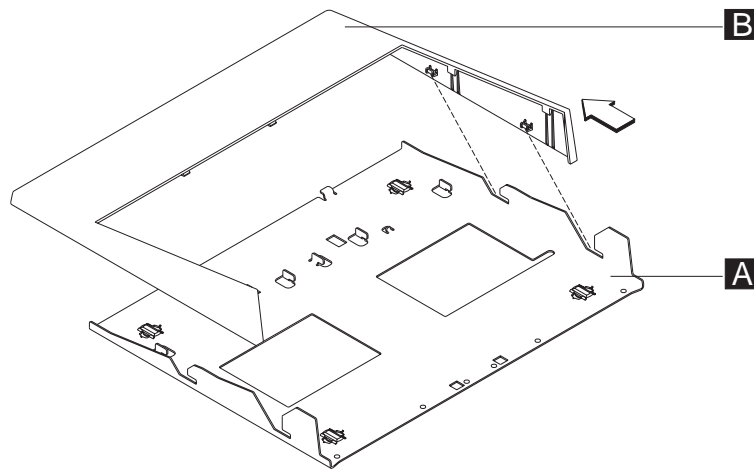

Figure 29. Sliding the fence off of the integration tray
- 2) Alternating from side to side, slide the plastic fence **B** about 7 mm (0.25 in.) until the plastic fence is detached from the metal integration tray **A**, as shown in Figure 29 on page 44.